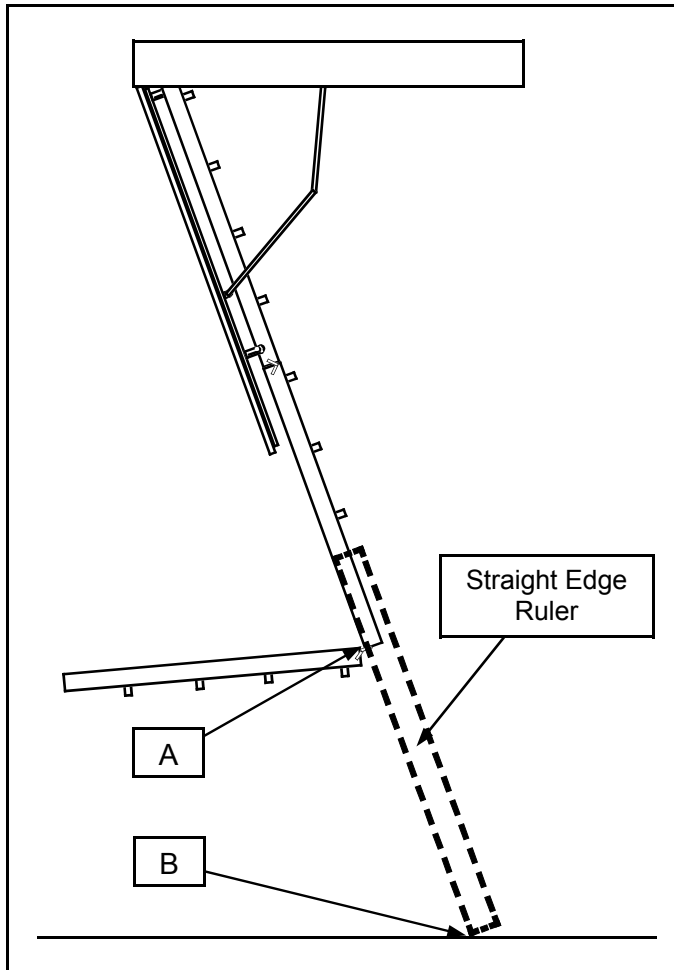

Figure 10
1. Unfold all sections as shown in Figure 10.